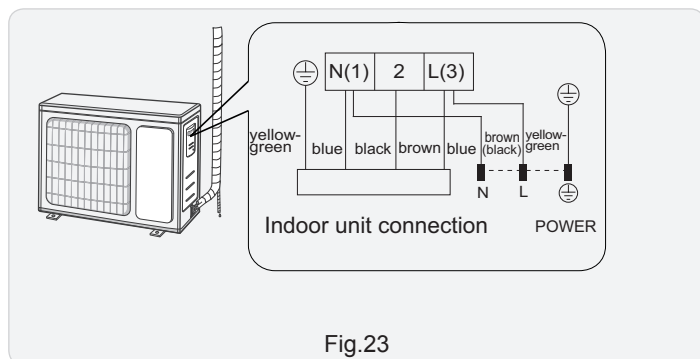

Fig.23
(1) Remove the wire clip; connect the power connection wire and signal control wire (only for cooling and heating unit) to the wiring terminal according to the color; fix them with screws.(As show in Fig.23)